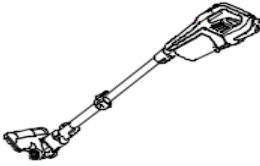

Fig.14
- Connect main body, wand and nozzle for use. (Fig. 14)